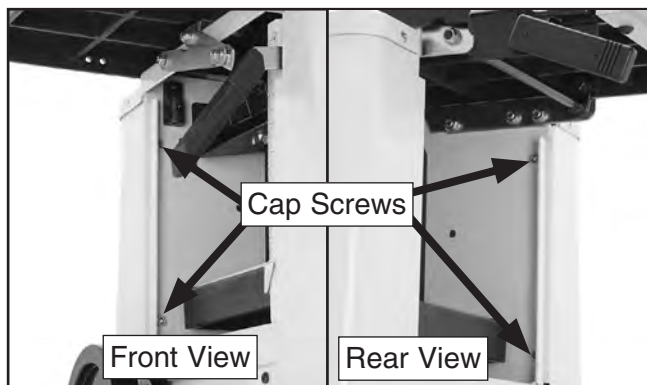

Figure 44. Location of rear access panel screws.
3. Remove the four cap screws (**Figure 44**) inside the cabinet on the fence side, then remove the rear access panel.